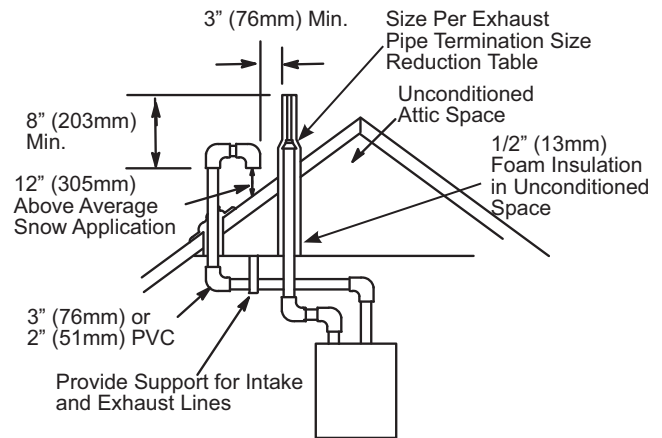
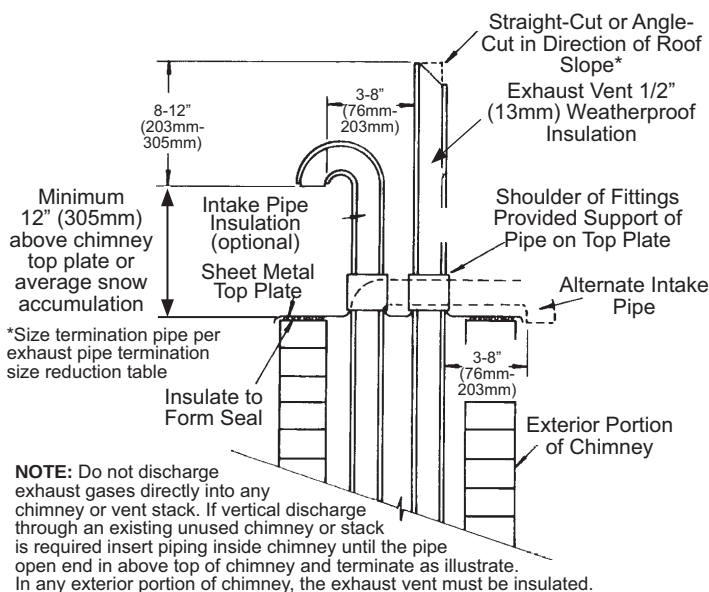

Figure 29. Direct Vent Roof Termination Kit
Figure 33. Direct Vent Application Using Existing Chimney
NOTE: Flue gas may be slightly acidic and may adversely affect some building materials. If any vent termination is used and the flue gases may impinge on the building material, a corrosion-resistant shield (minimum 24 in. square) must be used to protect the wall surface. If the optional tee is used, the protective shield is required. The shield should be constructed using wood, plastic, sheet metal or other suitable material. All seams, joints, cracks, etc. in the affected area should be sealed using an appropriate sealant. See **Figure 40**. Intake and exhaust pipes may be routed either horizontally through and outside wall or vertically through the roof. In attic or closet installations, vertical termination through the roof is preferred. **Figure 29** through **Figure 33** show typical terminations.
3. On roof terminations, the intake piping should terminate straight down using two 90° elbows (see **Figure 29**).